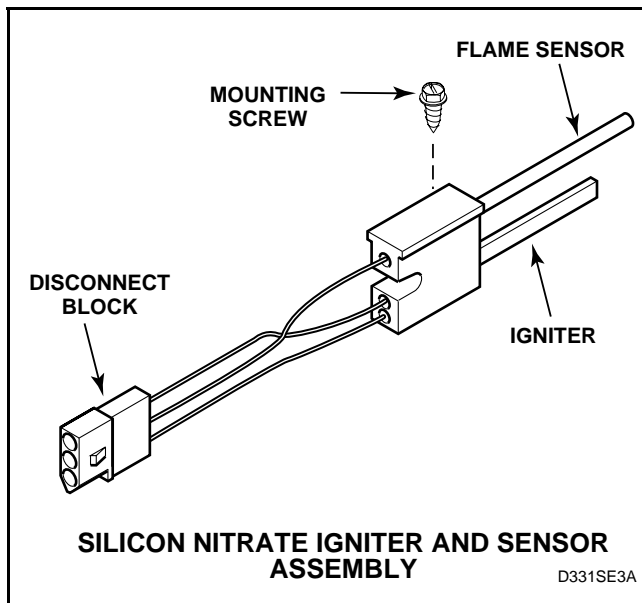

Figure 67
- Put first meter probe on terminal of flame sensor wire and second meter probe on terminal 2 of disconnect block. See *Figure 67*.
- Set test meter to read Ohms and put meter probes on terminals 1 and 3 of igniter disconnect block. See *Figure 67*.